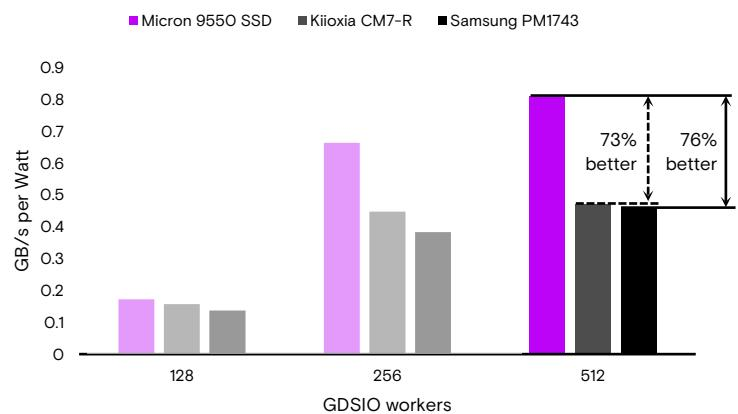

Figure 5: 4KB transfer power efficiency (GB/s per watt, higher is better)
Each SSD shows maximum performance at 512 GDSIO workers.⁶ The Micron 9550 SSD shows 30% higher performance than the Kioxia CM7-R and 34% higher performance than the Samsung PM1743. Figure 5 represents power efficiency in GB/s per watt, with efficiency data at 512 GDSIO workers highlighted. Here, the Micron 9550 shows 73% higher power efficiency than the Kioxia CM7-R, and 76% higher power efficiency than the Samsung PM1743.⁷
7. Performance and power efficiency differences are calculated as $(\text{higher value} / \text{lower value}) - 1$, expressed as a percentage. Power data for 512 GDSIO workers is highlighted in Figure 5. In each of the subsequent power efficiency figures, the highlighted value is the number of GDSIO workers at highest performance.